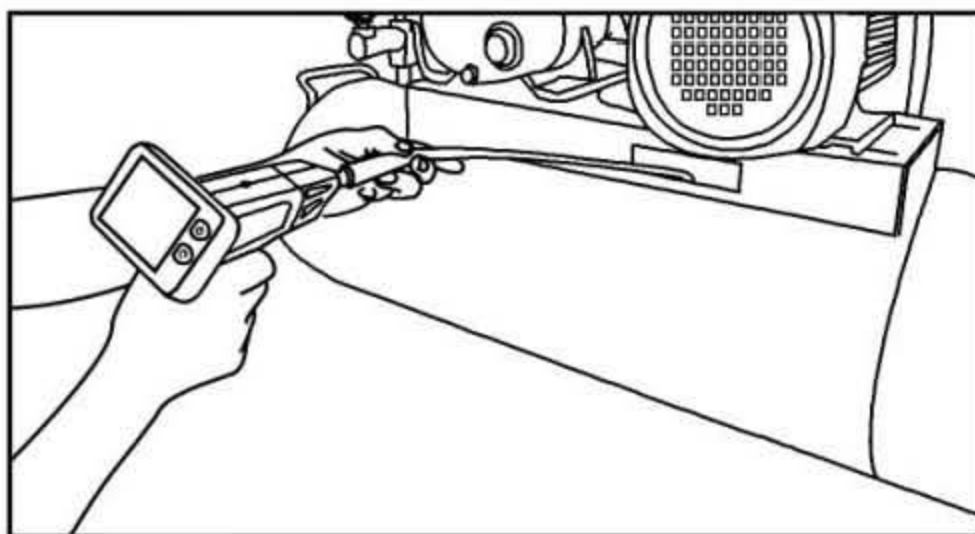

Fig. 12
- (5) Use the supplied accessories to provide application flexibility.
- (6) Connect the supplied video-out cable to video-out port of the tool and the other end of the cable to the video-in port of a TV to view a high quality real-time image.
- (7) Detachable 3.5" TFT-LCD wireless monitor allows for remote inspection up to 32ft (10m) from the measuring point. *(Fig.12)*.